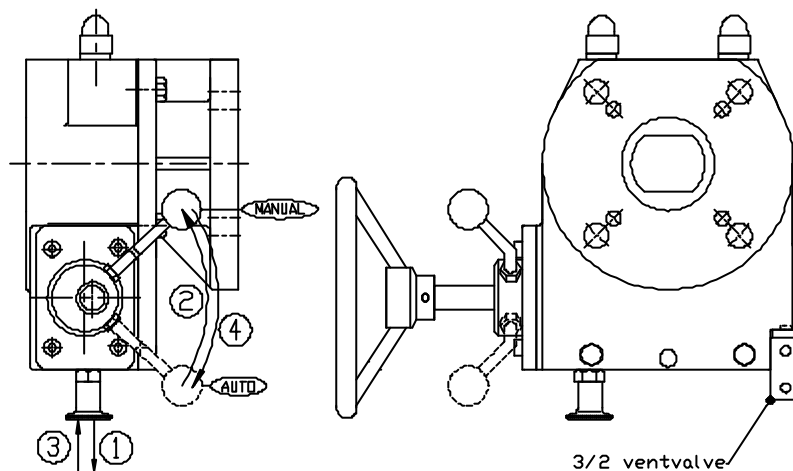

Figure 5 : ILG/D gearbox
2. Prior to manual operation, the gearbox has to be put into manual mode. To achieve this, refer to figure 5 and follow the next points :
- i. Pull the knob outwards (1). Secure the knob in this position.
- ii. Turn the handle counter clockwise (2) and release the knob. Continue turning the handle until the knob falls back into locking position (3).